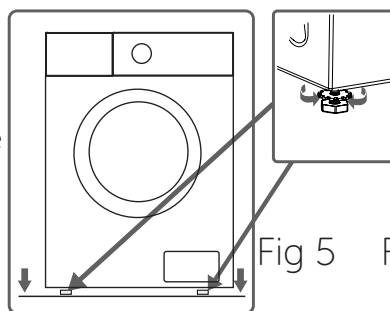

Fig 5
**3:** First, loosen the plastic adjustment nut. (Fig 5)